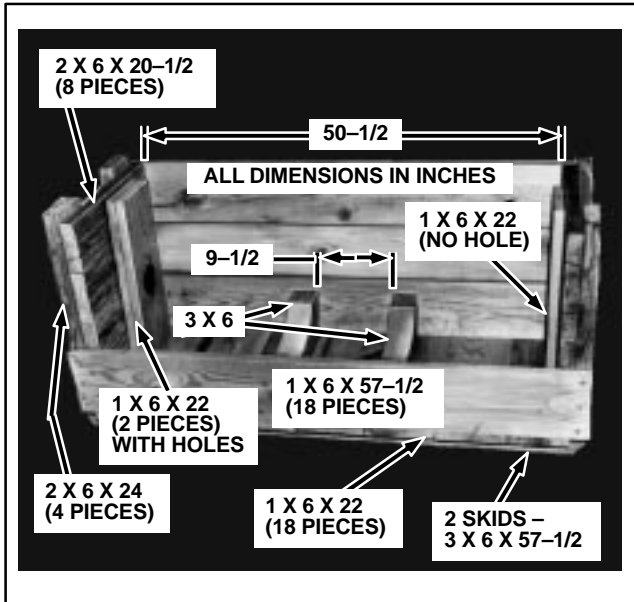

FIG. 45. BOX FOR SHIPPING ARMATURES. E-3782A.
1. Make a suitable box from yellow-pine lumber using timbers of proper size to support the weight of each armature. See Fig. 45.
3. Support the commutator-end of the shaft by two 1 X 6 in. boards nailed to the end of the box. Drill a hole in the two boards just large enough for the end of the shaft. See Fig. 45. The end of the shaft will fit in this hole against the end of the box to prevent movement.